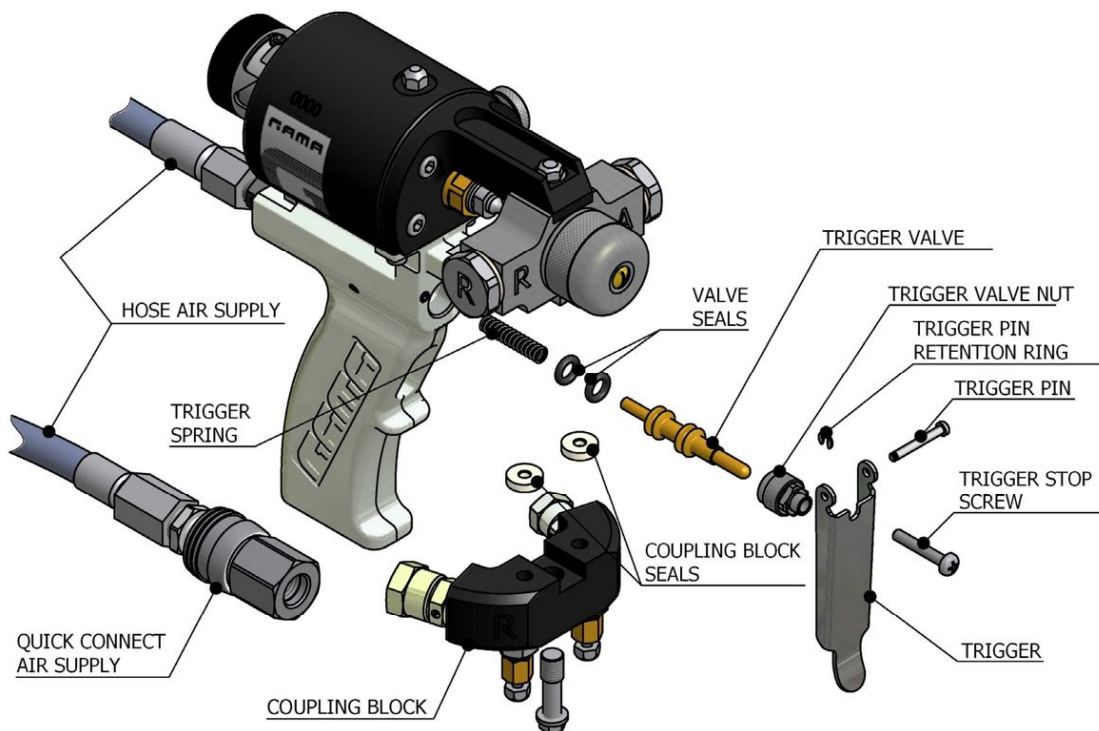

Figure. 21
4. Unscrew the trigger stop bolt (see **Figure. 21**).
5. Remove the retention ring, the pin and the trigger (see **Figure. 21**).
6. Unscrew the trigger valve nut (see **Figure. 21**).
7. Remove the valve. The valve has a spring inside it, take care not to lose it (see **Figure. 21**).